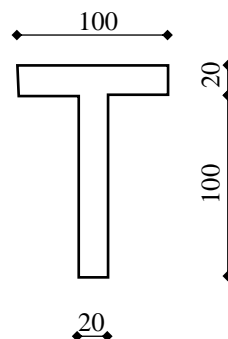

Fig. 2
- b) A simply supported beam with a cross section as shown in figure 2 carries a bending moment of 6kNm.